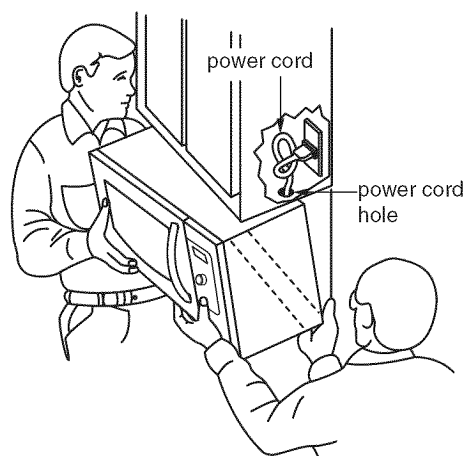

Figure 30
1. Carefully lift microwave oven and hang it on support tabs (See **Figure 26**) at the bottom of the mounting plate. Reaching through upper cabinet, thread power supply cord through the power supply cord hole in the bottom of the upper cabinet. See **Figure 30**.